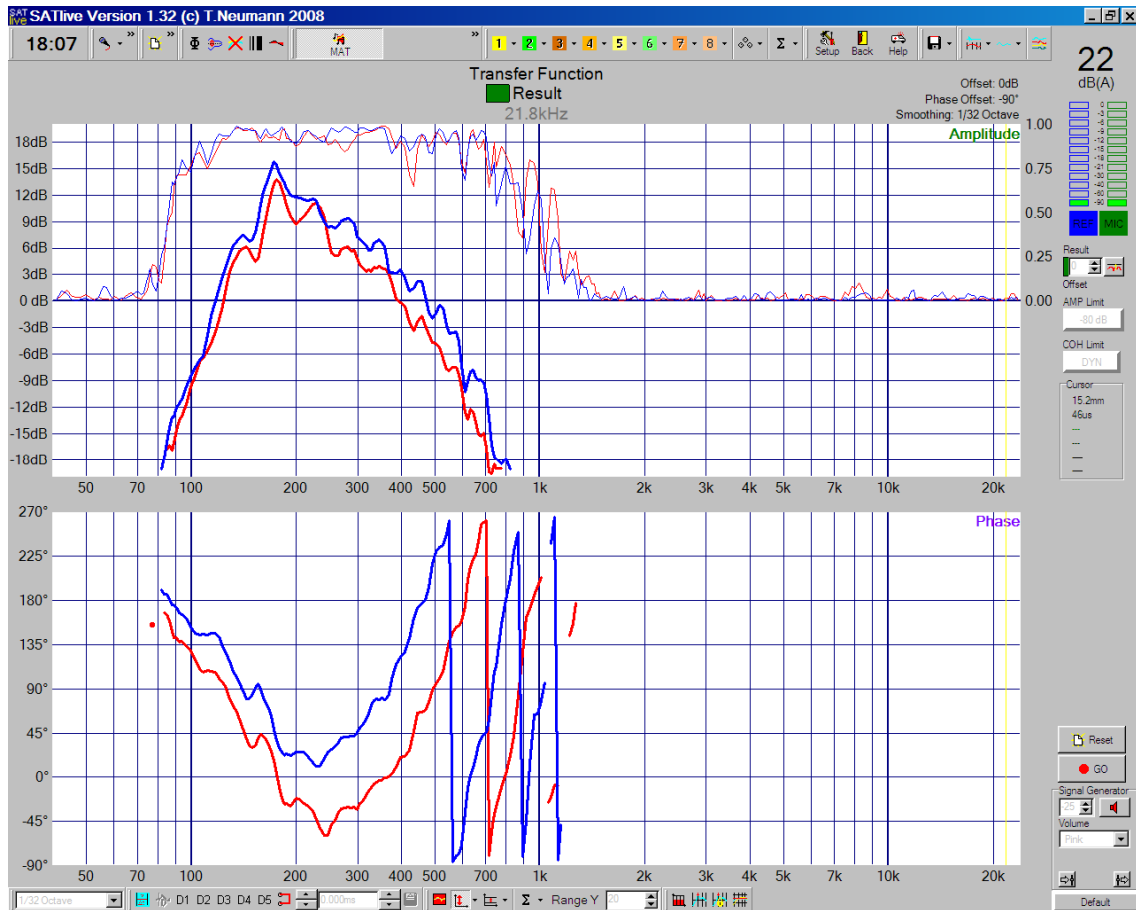

Fig. 4. Comparison of front (red) and back (blue) subwoofers. As expected, differences in phase and level can be noted.
6) Measure the back subwoofer band and compare the phase and amplitude curves with those of the front subwoofer. The result can be seen in Figure 4.